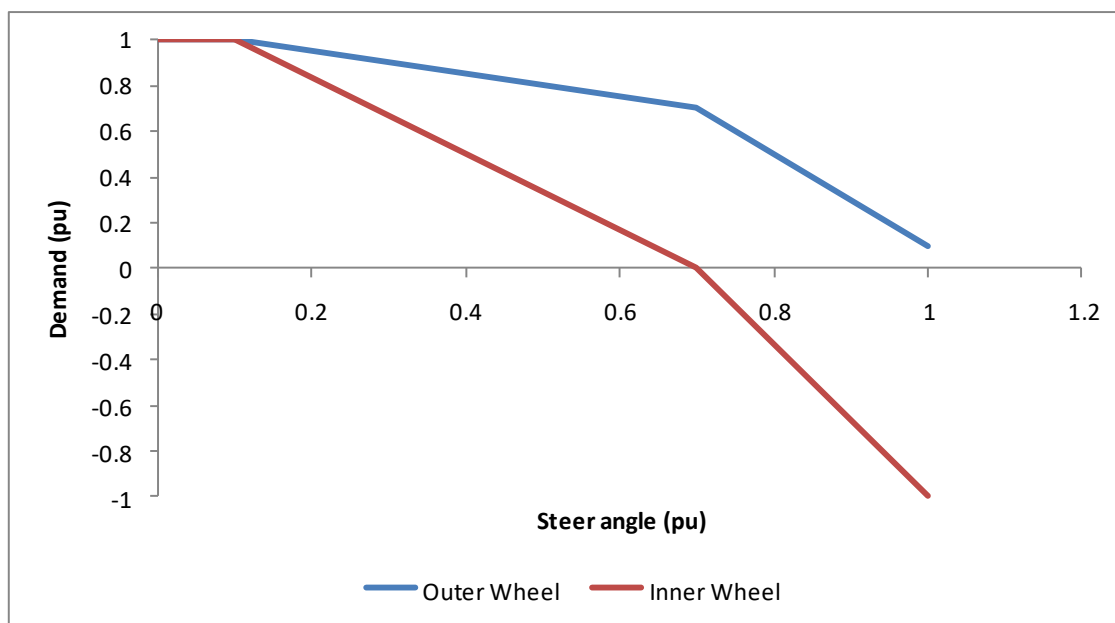

Figure 35 – Graph of speed vs. steering angle
- Setup the steering map. This map defines the relationship between the inner and outer wheel speeds and the steering angle. Each map has 4 user definable points as shown in Figure 35.